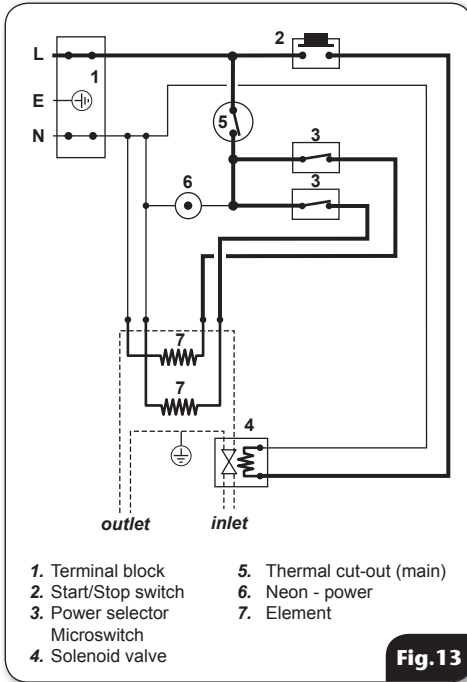

Fig. 13
- **Fig. 13** shows a schematic wiring diagram.